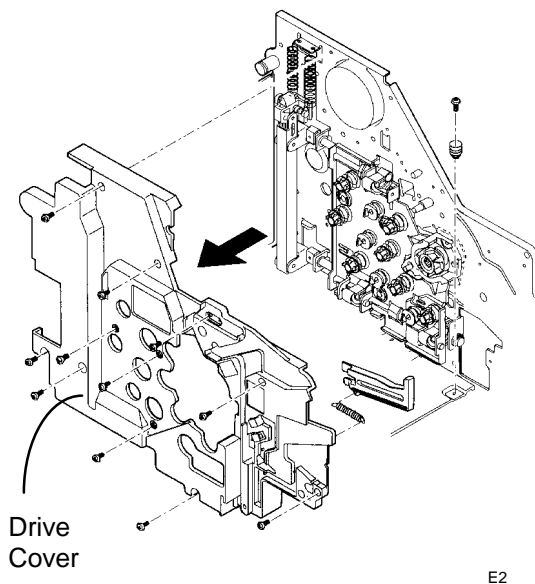

Figure 1. Removing the Drive Cover
2. (Figure 1): Remove the Drive Cover.